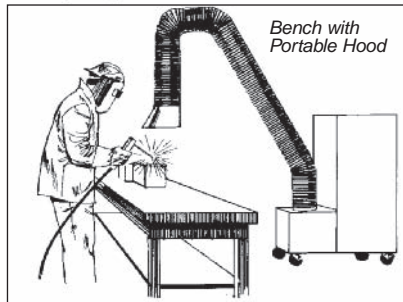

Figure 20.8
- 3) welding bench with portable or fixed hood (Figure 20.8).